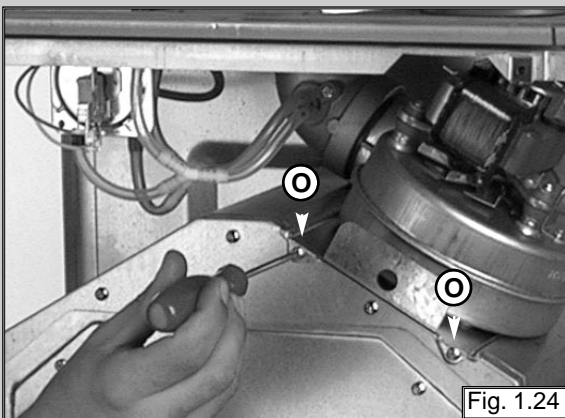

Fig. 1.24
1. Disconnect electrical connections and remove screws "O" using a No. 2 star tipped screwdriver (see fig. 1.24);